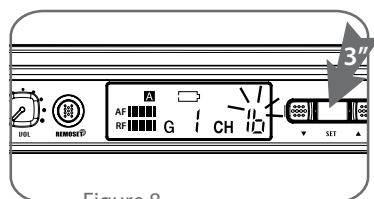

Figure 8
- (1) Press "Set" button ④ for 3 seconds, the group (G) in the "Group & Channel" area will flash. (Figure 8)
- (2) Press "▲Up" ② or "▼Down" ③ button to select a desired group.
- (3) Press "Set" again and the Channel (CH) in the "Group & Channel" area will flash.
- (4) Press "▲Up" or "▼Down" button to select a desired channel.
- (5) After setting, press "Set" again to save the setting.